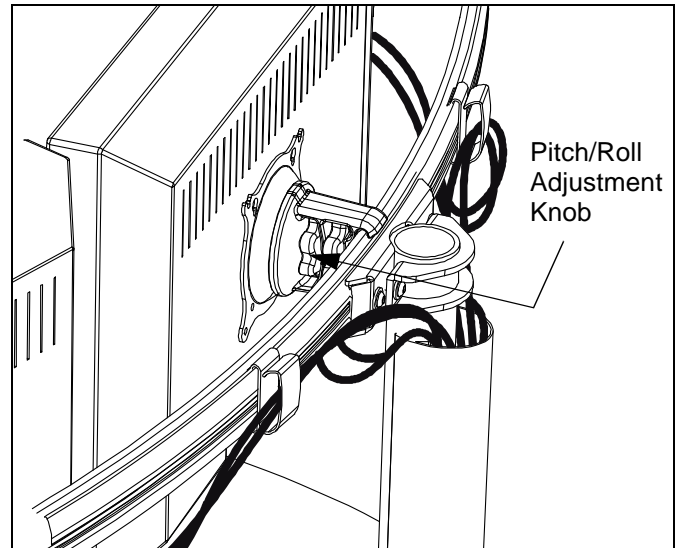

Figure 14: Display Pitch and Roll Adjustment
1. Loosen Centris bracket front adjustment knob. (see Figure 14)